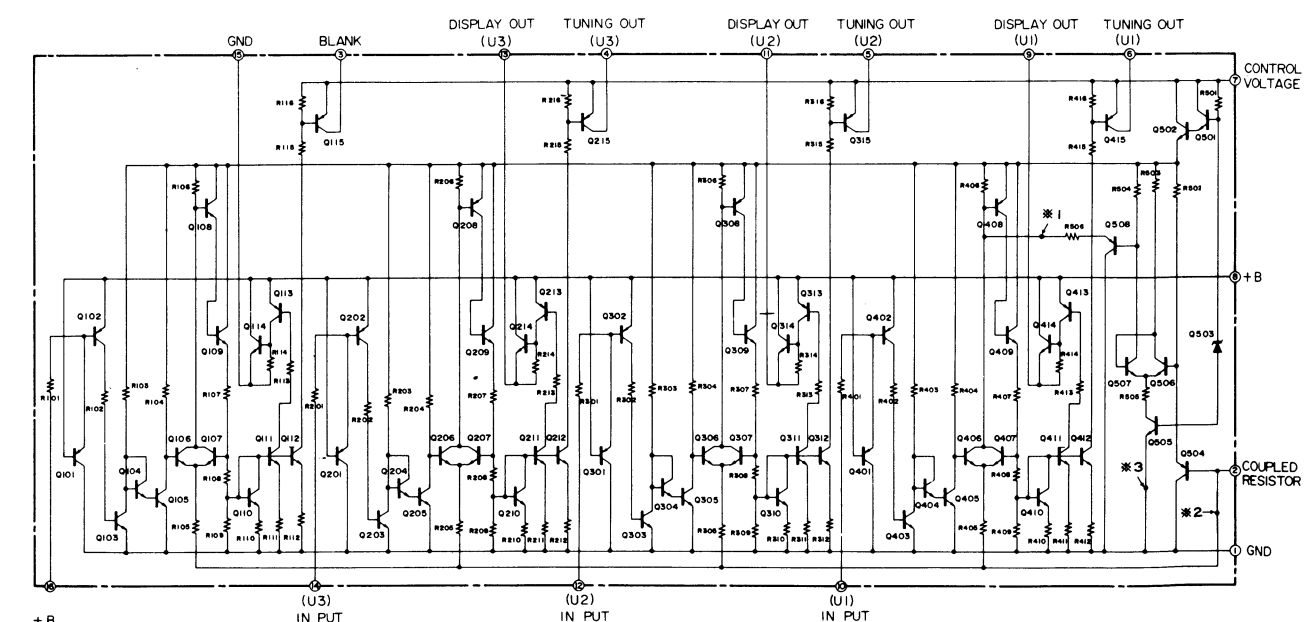

Figure 21
- The reason why any desired channel can be selected by touching one of the touch knobs (U1 to U5) (Refer to Figure 21).
- The reason why the two channel selector IC.s (IC401 and IC402) are connected with other in parallel. (Refer to Figure 21)